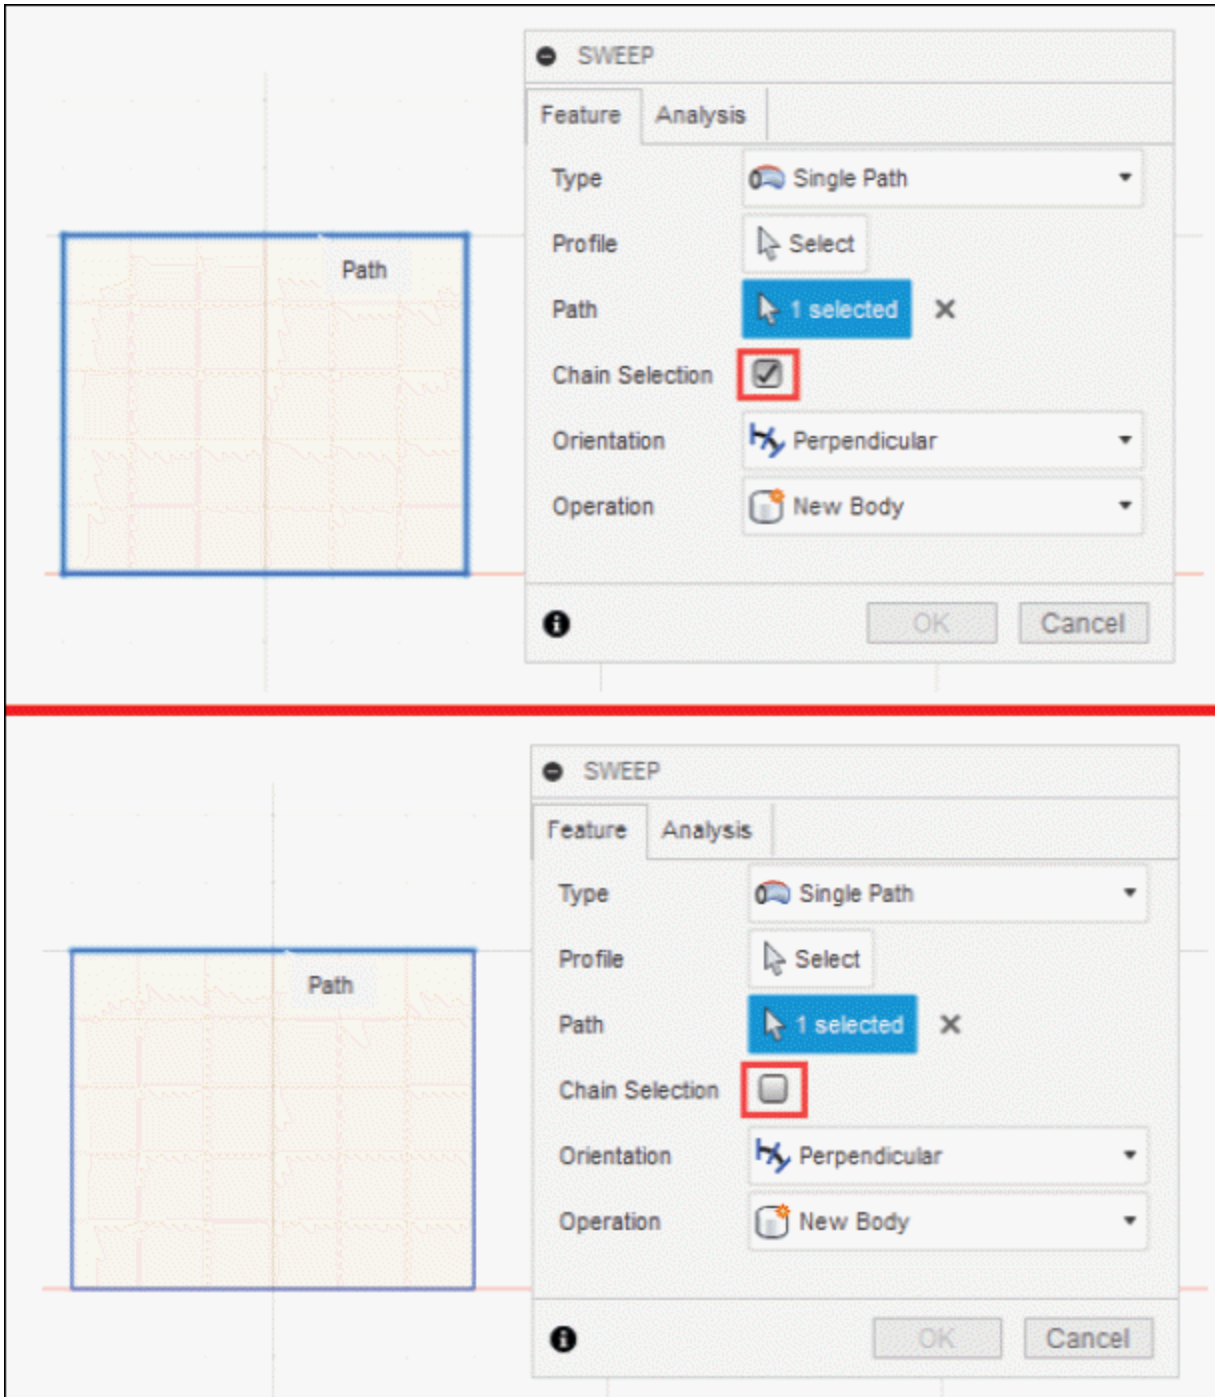

Figure-59. Selecting path with and without chain selection
- Select the **Chain Selection** check box if you want to select chain of entities connected with path curve being selected; refer to Figure-59.